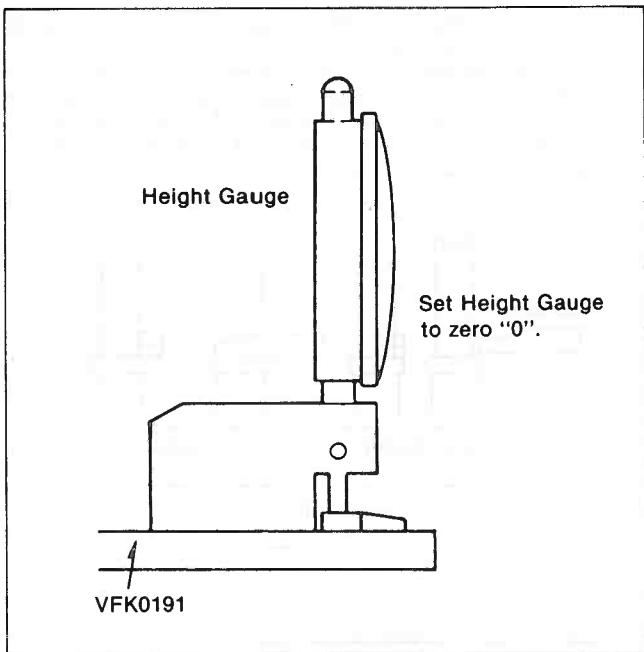

Figure M15
4. Place the Reel Table Height Gauge on the Post Adjustment Plate and set the gauge to zero "0" as shown in Figure M15.